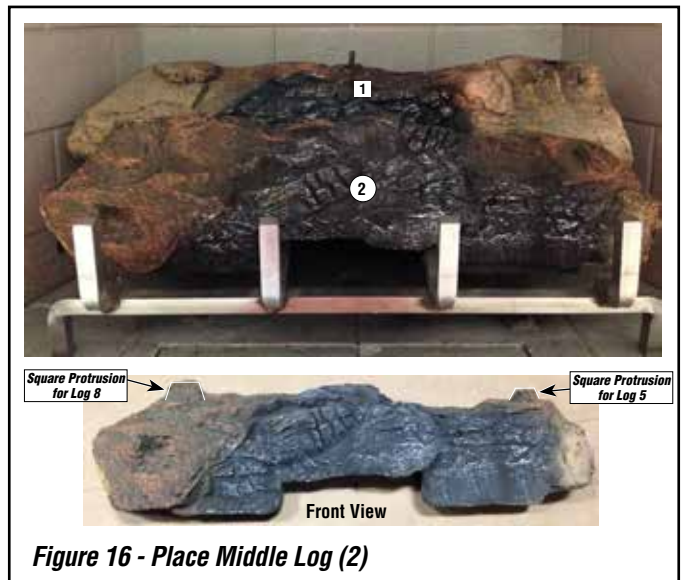

Figure 16 - Place Middle Log (2)
2. Place middle log (2) directly in front of tube burner (**Figure 16**).